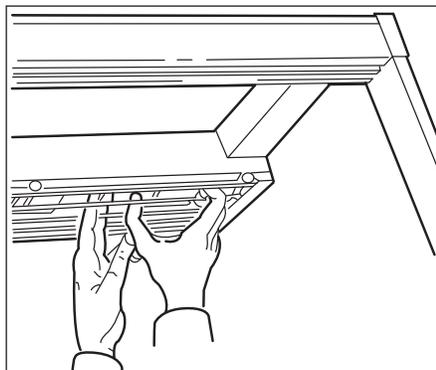

Figure 5. Halogen Bulb Replacement
3. Gently, but firmly, press the lamp socket sideways and remove the bulb (Figure 5).